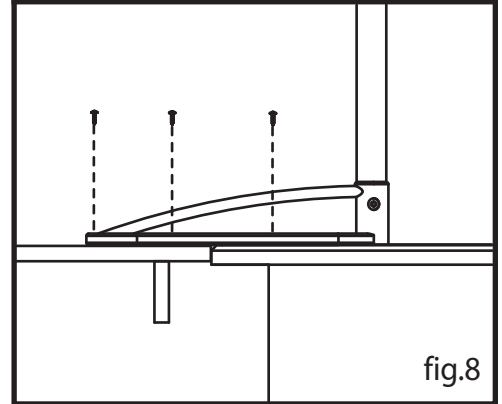

fig.8
8- Attach the brace to the deck using the 1½" (5) screws. If the deck is above the toprail, attach the brace directly to the deck (fig.8).